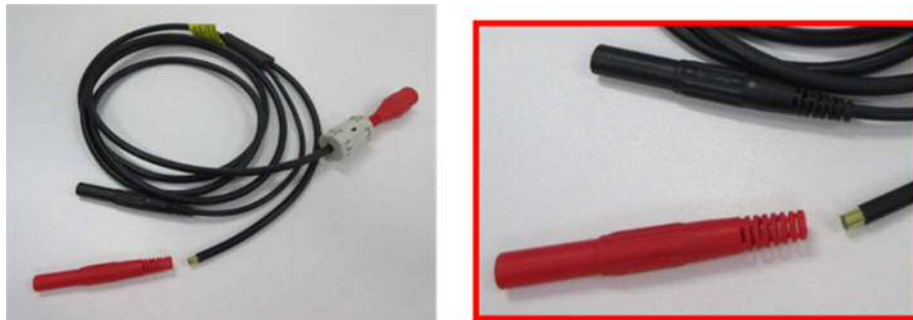

Figure 1: Brake and come off condition
- 1. The red banana terminal of the coaxial cable may brake and come off after being used only for about 10 times (Figure 1). Two cases have been reported out of 2,231 units shipped from HIOKI, as of May 20, 2020,.